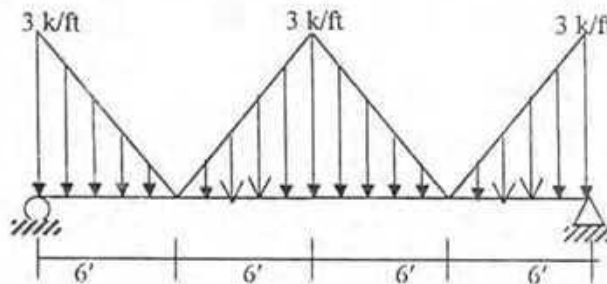

Fig.2
Q2. Using summation procedure, draw the shear force and bending moment diagram for the beam with loads as shown in Fig. 2. (10)